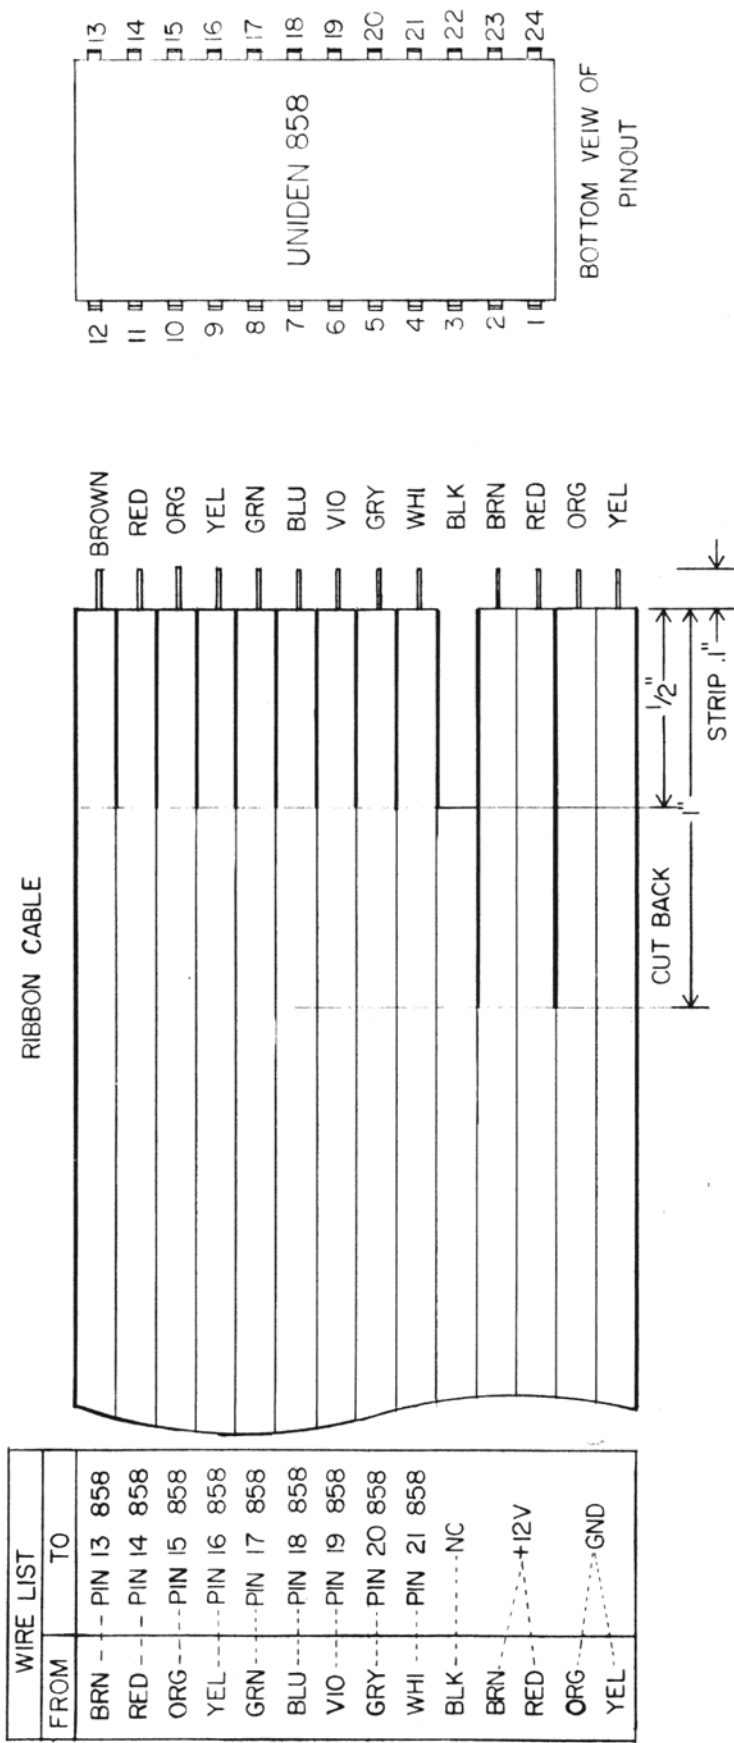
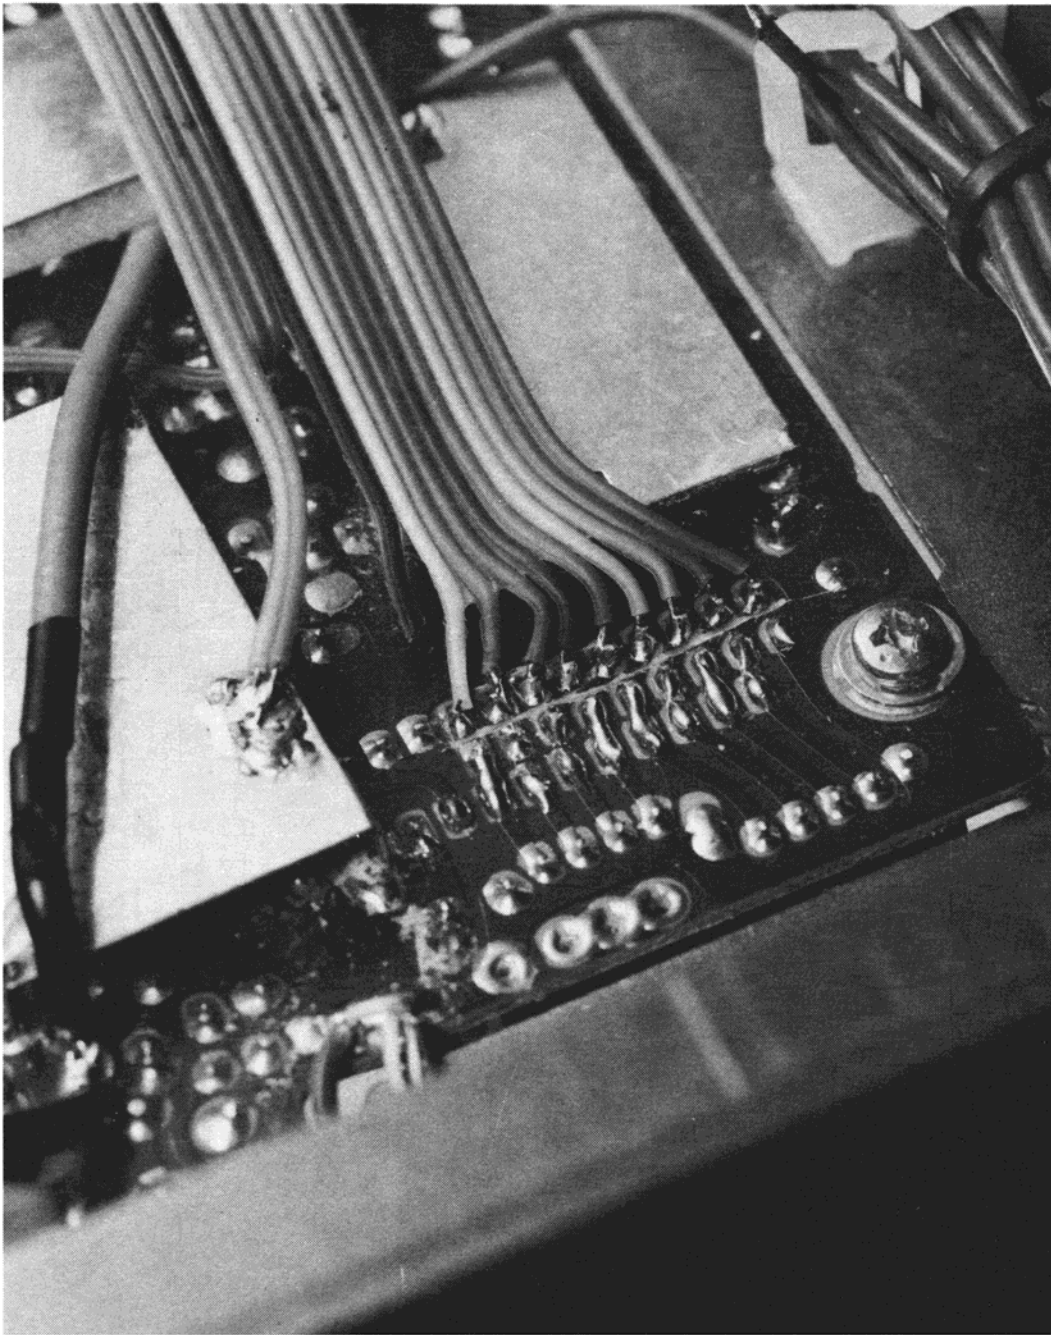

FIG. 1 - RIBBON CABLE INSTALLATION
Fig. 5 — Installation of Cable Assembly
5. Separate wires as shown in Figure 1.
6. Solder wires to UNIDEN 858 chip as follows: Start with brown wire to pin 13, continue installation as shown on Figure 1. (Refer to Figure 5.)
8. Solder the orange and yellow wires to the ground shield as shown in Figure 5.